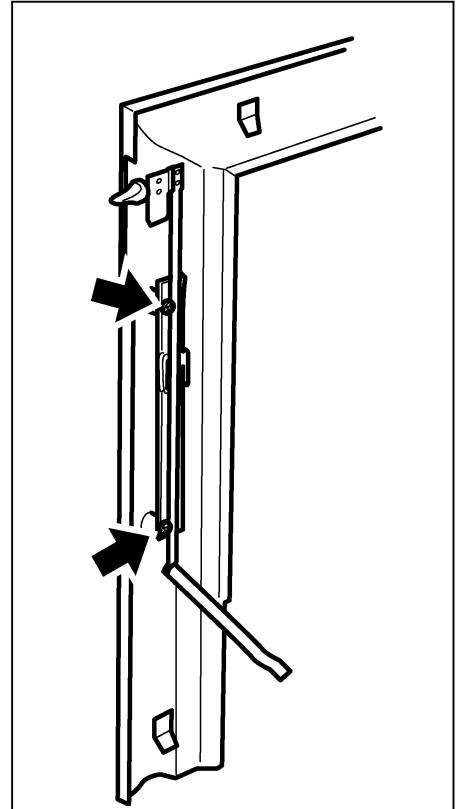

Figure 27. Attach slider to Firefront
1. Attach the slider control to the rear of the front surround using 2 Taptite screws (See figure 27). Slide the control button upwards as far as it will go. Make sure that the bottom of the linking bar is higher than the bottom of the front surround.